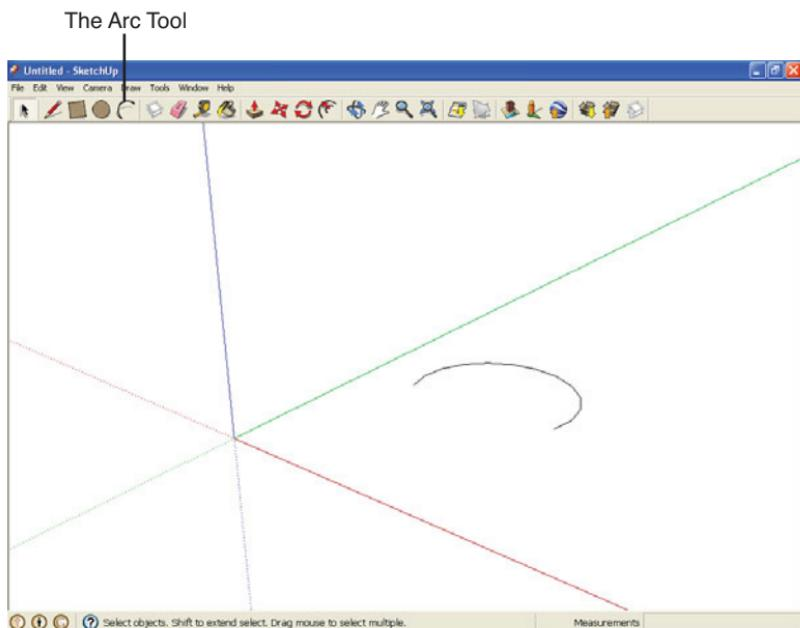

FIGURE 4.1 The Arc tool and a new arc.
2. Click the **Arc tool** in the toolbar (shown in Figure 4.1).
6. Click the mouse. The arc becomes permanent (unless you erase it, of course). You can see an arc in Figure 4.1.
2. Click the **Arc tool** in the toolbar (shown previously in Figure 4.1).